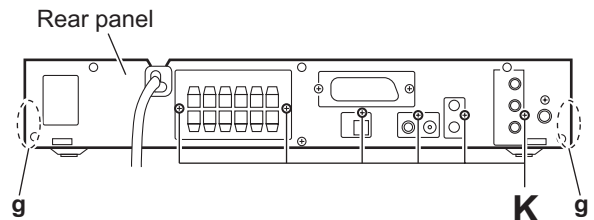

Fig.13
- (6) From the back side of the main body, remove the six screws K attaching the main board to the rear panel. (See Fig.13.)
- (7) Release the engagement sections g and remove the rear panel together with the scart terminal board and tuner assembly. (See Fig.13.)
- (8) Take out the main board from the main body.